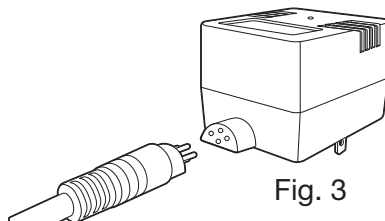

Fig. 3
- ### 8. Attach the ballast to the power cord. Use care to align the 4-pin plug properly. DO NOT FORCE. The 4-pin plug was designed to fit in only one orientation (Fig. 3).